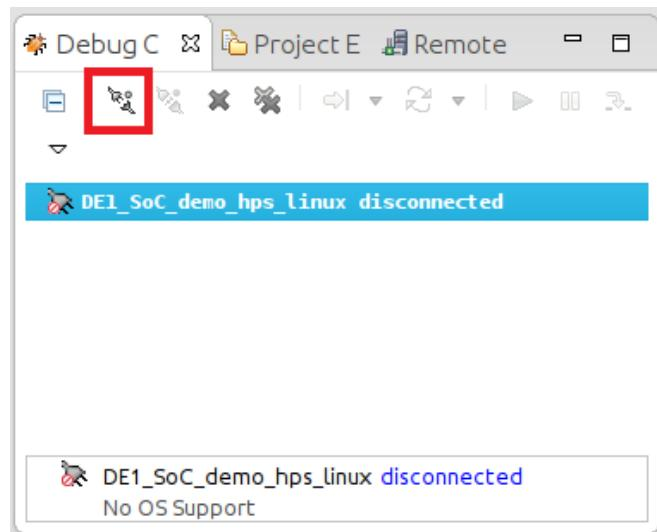

Figure 13-34. Debug Control View
82. In the “Debug Control” view, click on the “DE0\_Nano\_SoC\_demo\_hps\_linux” entry, then click on the “Connect to Target” button, as shown on Figure 13-34. The debugger will start an SSH connection to the linux distribution running on the DE0-Nano-SoC and will automatically transfer our binary file and wait at our application's “main()” function. If you are prompted to log in, then log in with the **ROOT** user and password.